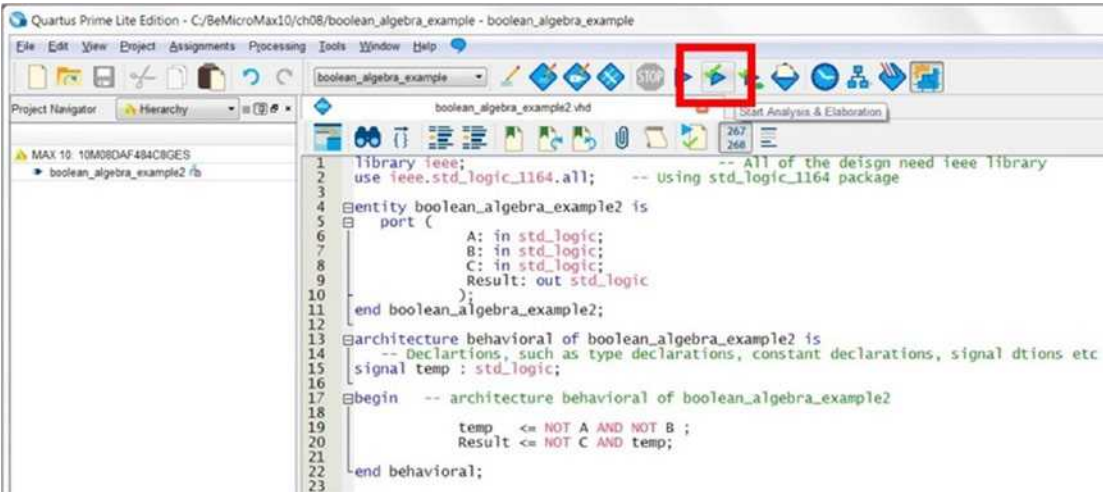
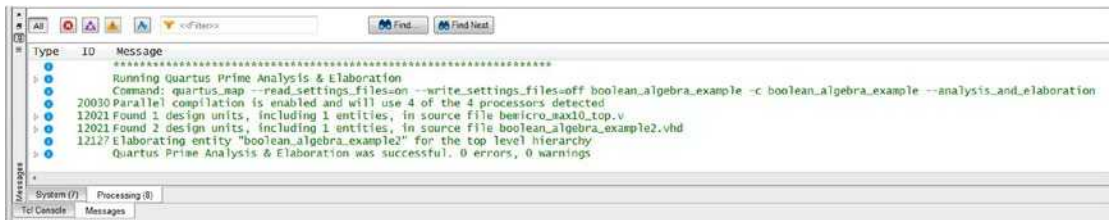

Figure 8-7. Start Analysis & Elaboration button
Figure 8-8. Message after Start Analysis & Elaboration finished
- 6. Click **Processing ► Start ► Start Analysis & Elaboration** from the Quartus Prime menu or click the blue triangle with green tick box in the toolbar to start analysis & elaboration (Figure 8-7). It will not have any warnings or errors in the message pane (Figure 8-8).